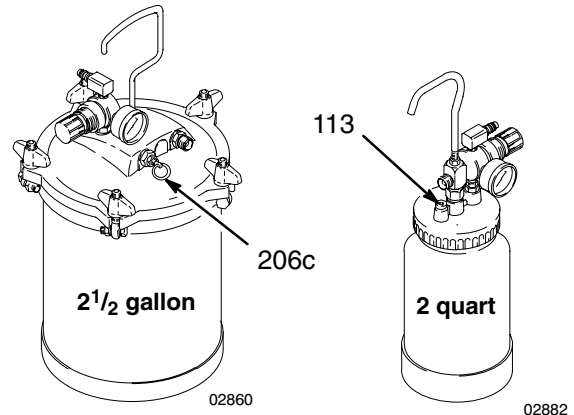

Fig. 7
Turn **out** pressure relief knob (113) about one turn. Wait until pressure is completely relieved before you remove cover. Close knob. See Fig. 7.